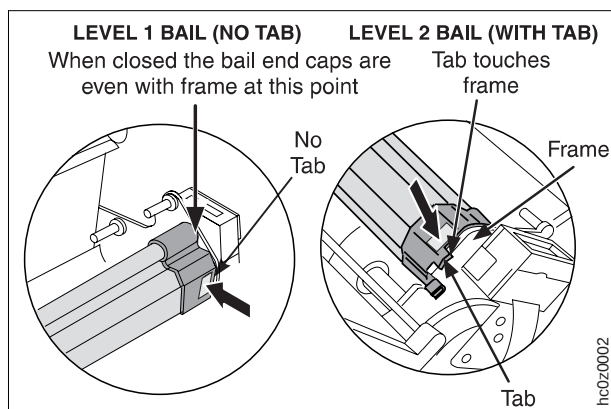

Figure 56. Correct Installed Position for Paper Bail.
4. Ensure that the paper bail is in the lower, detented position (touching the upper feed roller assembly). See Figure 56 on page 302.